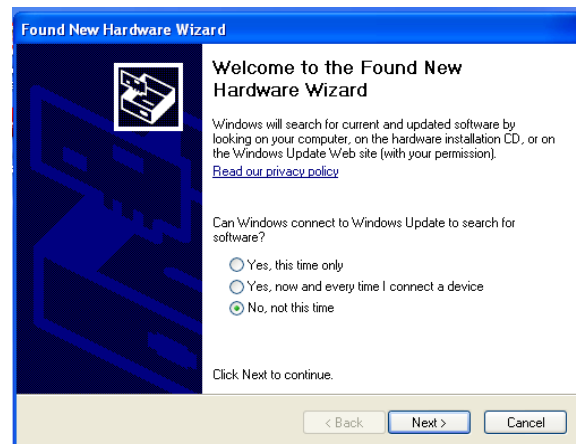

Figure 19. Found New Hardware Wizard
1. Plug the ADP5588 board into the computer using the provided USB cable. When the system recognizes the board, the screen shown in Figure 19 appears.